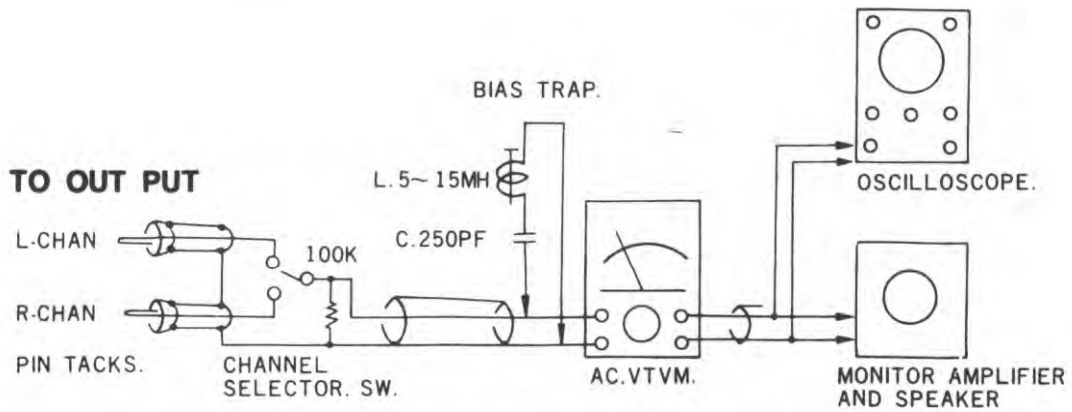

FIG. 10 TEST EQUIPMENT HOOK UP
2. Connect test equipment as illustrated in Figure 10.